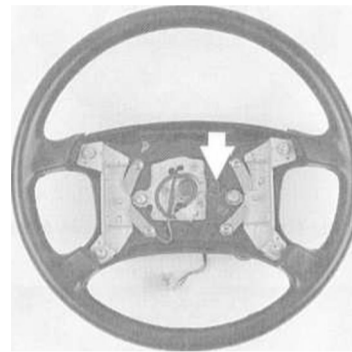

Fig. 8. Airbag contact ring lock (arrow). Pry out lock and remove spring from behind lock.
5. Lift out plastic lock from steering wheel. See Fig. 8.